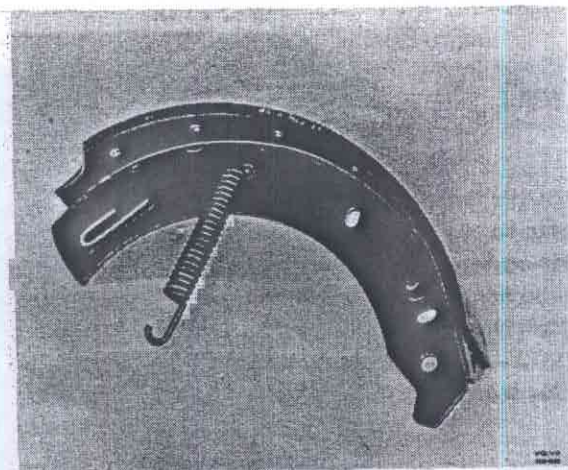

Fig. 51-7. Brake shoe
1. Hook the return spring on the inside of the brake shoes, see Fig. 51-7. Check that the shoe pin comes inwards since the shoes are different on the left-hand and right-hand sides.